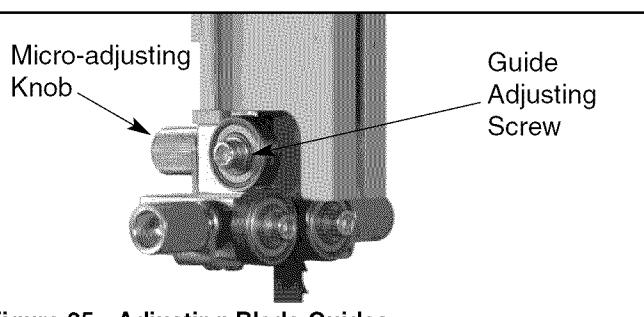

Figure 25 - Adjusting Blade Guides
- Adjust the rear roller guide to be just clear of the back of the saw blade releasing the guide adjusting screw (see Figure 25) through turning the micro-adjusting knob.
- When the correct adjustment is reached, lock the roller guide in position with the guide adjusting screw (see Figure 25).